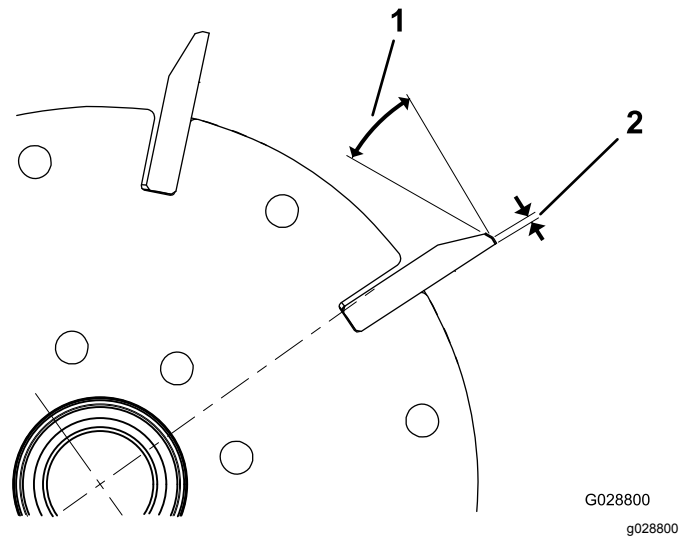

Figure 23
1. Apply a 30° relief grind on all reel blades until the land width is 1.3 mm (0.050 inch) wide (Figure 23).